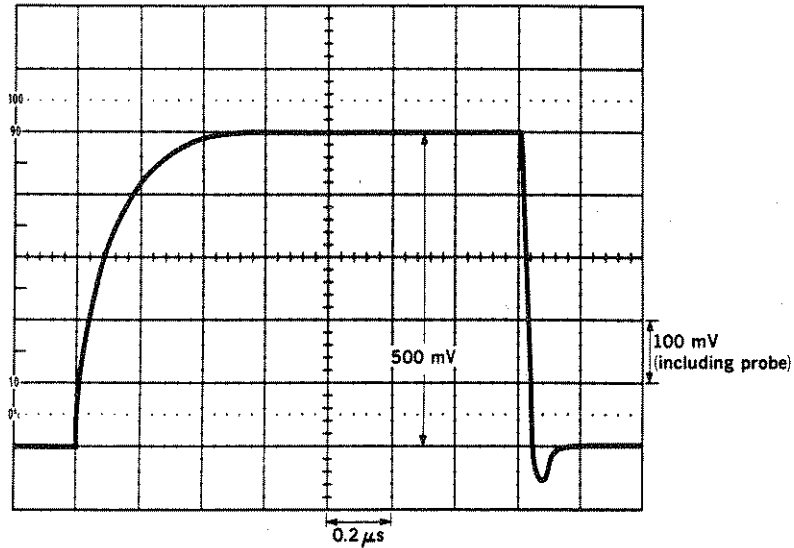

Figure 5-10. Stress Stray Calibration Oscilloscope Trace
STEP 8. Observe the waveform on the oscilloscope. There should be one pulse displayed, as shown in Figure 5-10. The voltage being measured is produced by the DUT current passing through a 10 ohm resistor.